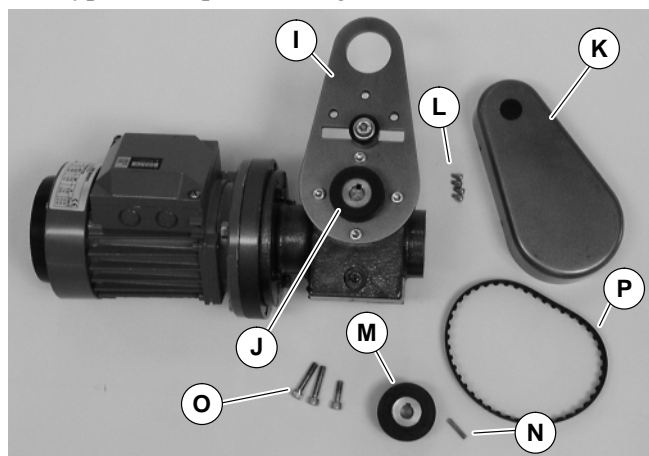

Figure 3
### 1. Typical components (Figure 3)
**NOTE:** Type 1 mounting package shown (Figure 3), Type 2 mounting package similar.